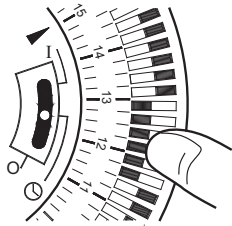
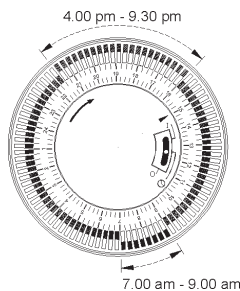

Fig. 4
Fig. 5
To set the time of day, rotate the timer dial clockwise (indicated by the arrow) until the correct time of day is opposite the reference mark (see Fig. 4).
1. Using your finger tip or the tip of a pencil, push in as many segments as necessary around the dial, according to the times you don't require heat – see Fig. 4. Each segment pushed in switches the heater OFF for that part of the hour. All other segments will be ON. For example, Fig. 5 shows the timer set to switch the heater ON between 7 am and 9 am and between 4 pm and 9.30 pm .
Check that the clock shows the correct time of day. Set the I - - O slide switch to (see Fig. 4) - the convector will switch ON and OFF according to the timer settings (see Fig 5).